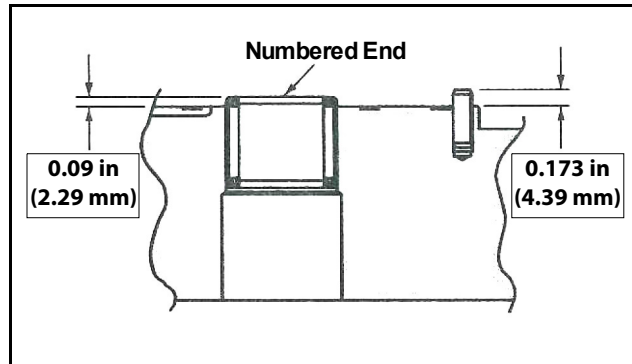

Figure 5-122. Endcover Inspection
- Check the bearing (press fit) in endcover. If needles remain in cage, move freely, and setting is at the dimension shown in Figure 5-122. removal not required.
- Check roll pin in endcover. If tight and set to the dimension shown in Figure 5-122. removal not required.